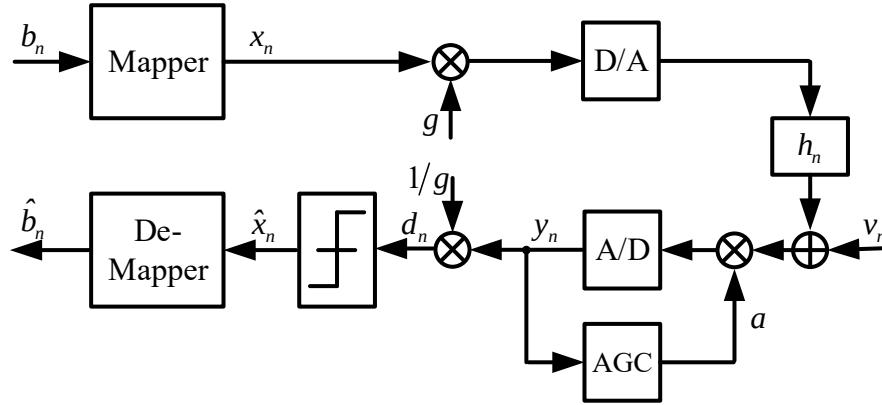

Fig. 1: Simple transceiver including a mapper, a channel, a de-mapper, a slicer, and an AGC.
1. Design a MATLAB program to realize a simple transceiver, as shown in Fig. 1, including a mapper, a channel, a de-mapper, a slicer, and an AGC for 16-QAM modulation schemes, where the channel model is defined as $h_n = 0.5\delta_n$. Besides, both D/A and A/D can be viewed as ideal. A test bit streams (“bin.dat”) can be founded in E-Learning.